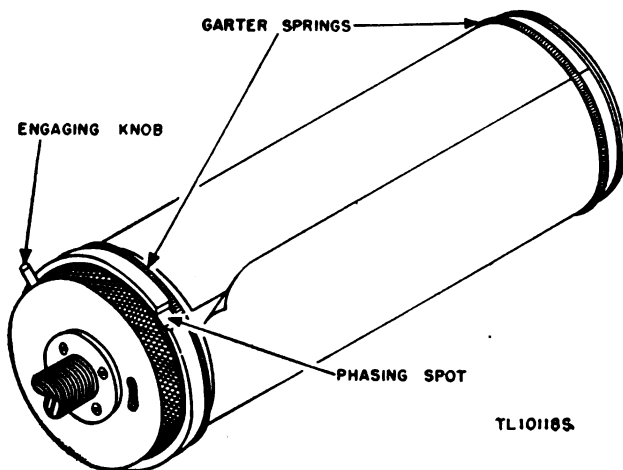

Figure 7. Loading drum with direct recording paper.
*c.* Press backward the engaging knob on the left end of the drum (fig. 7) to disengage the drum from the shaft. Push the drum to the right-hand end of the lead screw. Rotate the drum until the clamping bar is at the top.
c. Wrap the direct process paper around the drum, with the metallic or white side toward the drum. Keep the overlap of the paper alongside the white spot on the phasing ring. The paper must lap so the stylus needle will drop off the edge. (See fig. 7.) Do not get finger marks on the glazed surface of the paper. Hands should be clean and dry. Move the drum so that the left-hand garter spring is slightly to the left of the stylus needle.